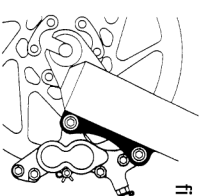
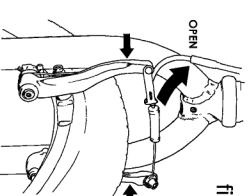

fig. 6
fig. 7
3. Some bicycle brakes, such as disc brakes (fig. 6) and linear-pull brakes (fig. 7), are extremely powerful. Take extra care in becoming familiar with these brakes and exercise particular care when using them.
WARNING: Some bicycle brakes, such as linear-pull (fig. 7) and disc (fig. 6) brakes, are extremely powerful. You should take extra care in becoming familiar with these brakes and exercise particular care when using them. Applying these brakes too hard or too suddenly can lock up a wheel, which could cause you to lose control and fall.